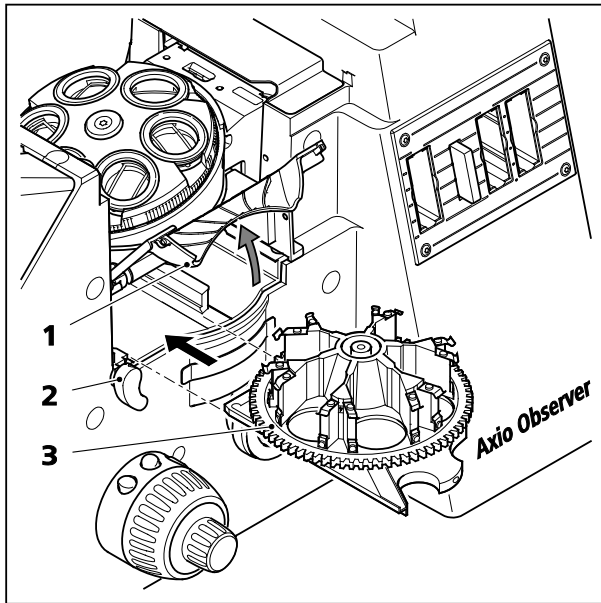
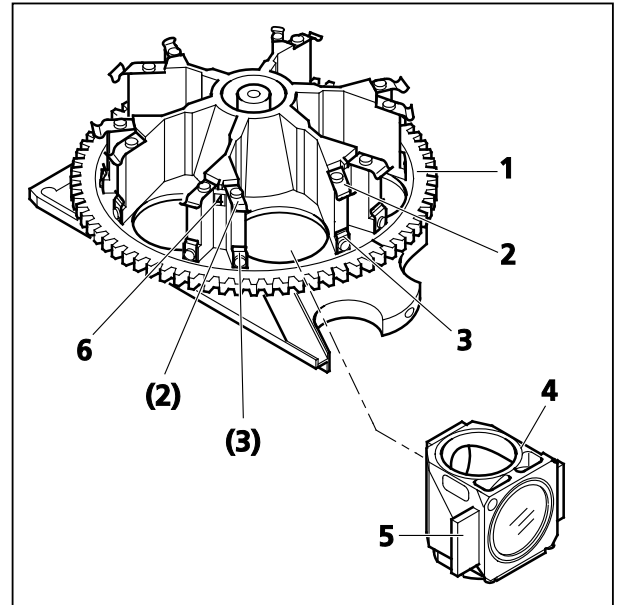

Fig. 34 Fitting the reflector turret
Fig. 35 Fitting the reflector modules
- Rotate the locking lever (Fig. 34/2) downwards and open the cover (Fig. 34/1).
- Insert the loaded or unloaded reflector turret (Fig. 34/3) into the opening beneath the nosepiece as far as it will go.
- Close the cover flap (Fig. 34/1) and rotate the locking lever (Fig. 34/2) upwards.
- Rotate the locking lever (Fig. 34/2) downwards and raise the cover (Fig. 34/1).
- Pull the reflector turret (Fig. 34/3) or (Fig. 35/1) out of the stand to the first stop position (or remove from the stand completely and place on a suitable surface (stable desk).
- Insert the reflector modules (Fig. 35/4) in the relevant reflector position according to the filter combination (see position marking Fig. 35/6), starting with position 1 (emission filter is at the bottom). To insert the reflector modules, insert the retaining elements (Fig. 35/5) on the left and right of the module into the two lower spring clips (Fig. 35/3) diagonally from above, then push the module against the upper spring clips (Fig. 35/2) from the front until it clicks into position.